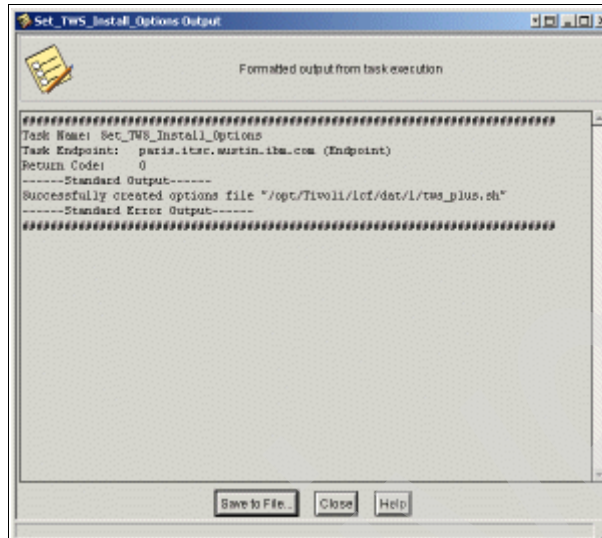

Figure 8-13 Set_TWS_Install_Options Output window
10. The task is executed and progress displays in the Set_TWS_Install_Options Output window, as shown in Figure 8-13.